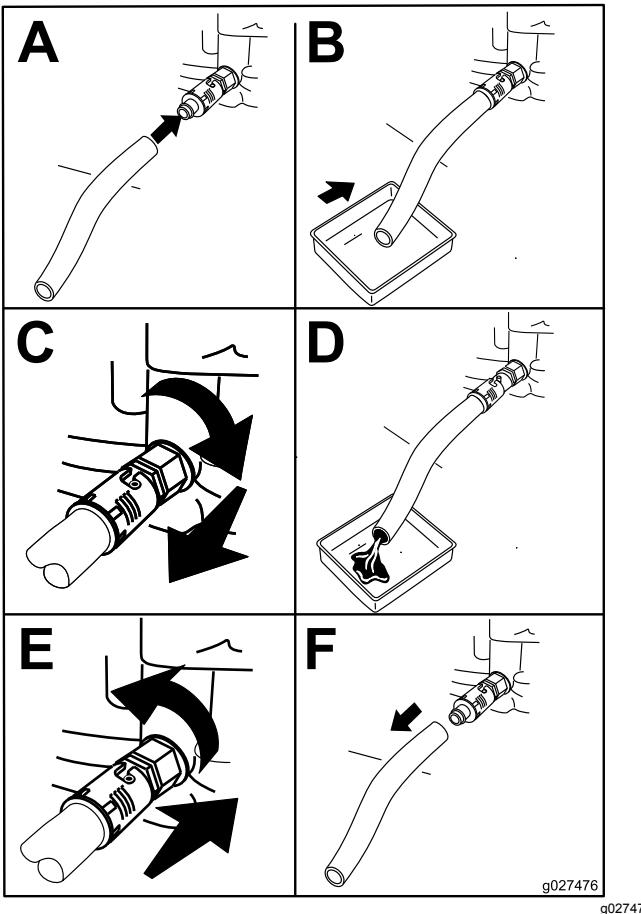

Figure 24
4. Drain the oil from the engine (Figure 24).